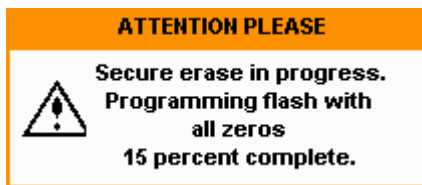

Figure 8-4 Secure erase status pop-up
6. A pop-up appears, as shown in Figure 8-4 informing you of the status of the procedure.